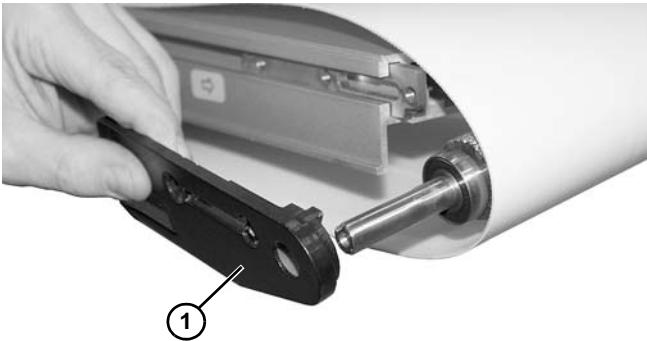

Figure 82
4. Remove the head plate (**Figure 82, item 1**) from the conveyor frame, holding spindle in place.